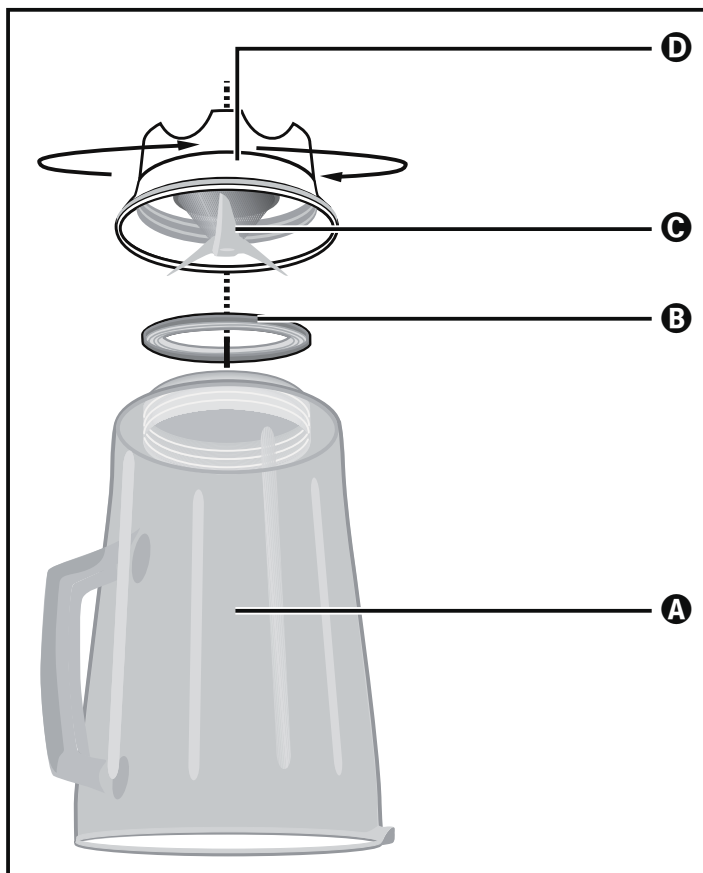

Fig. 3
- 2) Turn the appliance upside down and turn the plastic part **D** of the blender **3** anticlockwise so that it can be removed from the glass part **A** of the blender **3** (see Fig. 3).